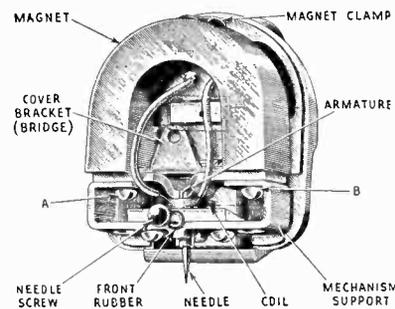

Figure 6
- (d) Remove screws A and B, Figure 6, and then remove the mechanism assembly from the pole pieces.
- (h) After remagnetizing, it is necessary to correctly center the armature. This may be done quite accurately by feeling its play after the needle is inserted. A little practice will quickly show which way an adjustment is necessary to have the armature centered properly. The adjustment is made by loosening screws A and B (Figure 6), and sliding the mechanism slightly in relation to the pole pieces.